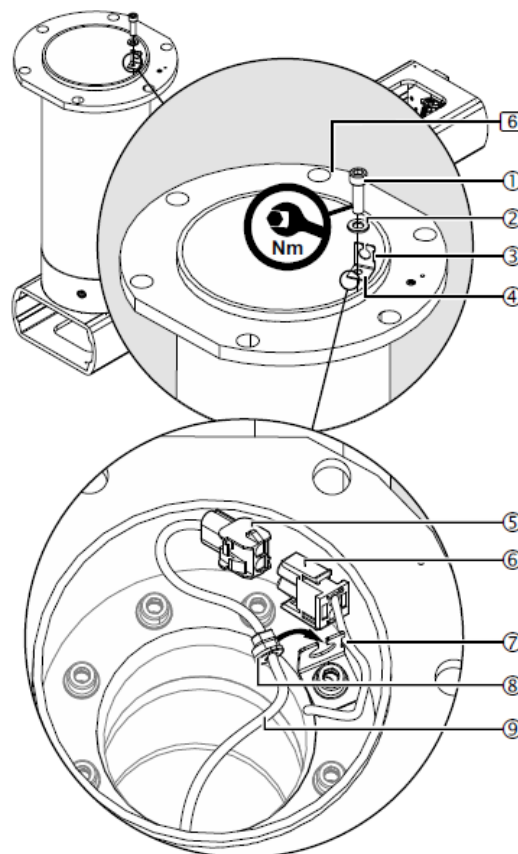
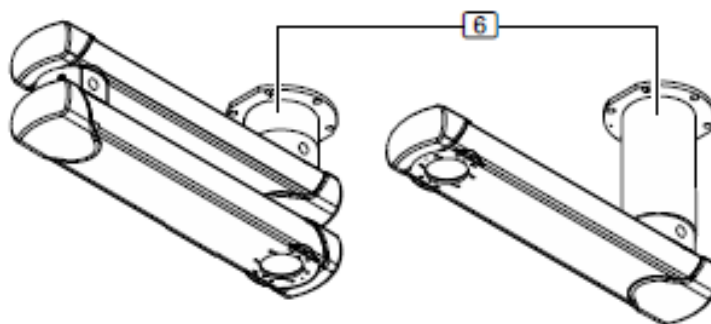
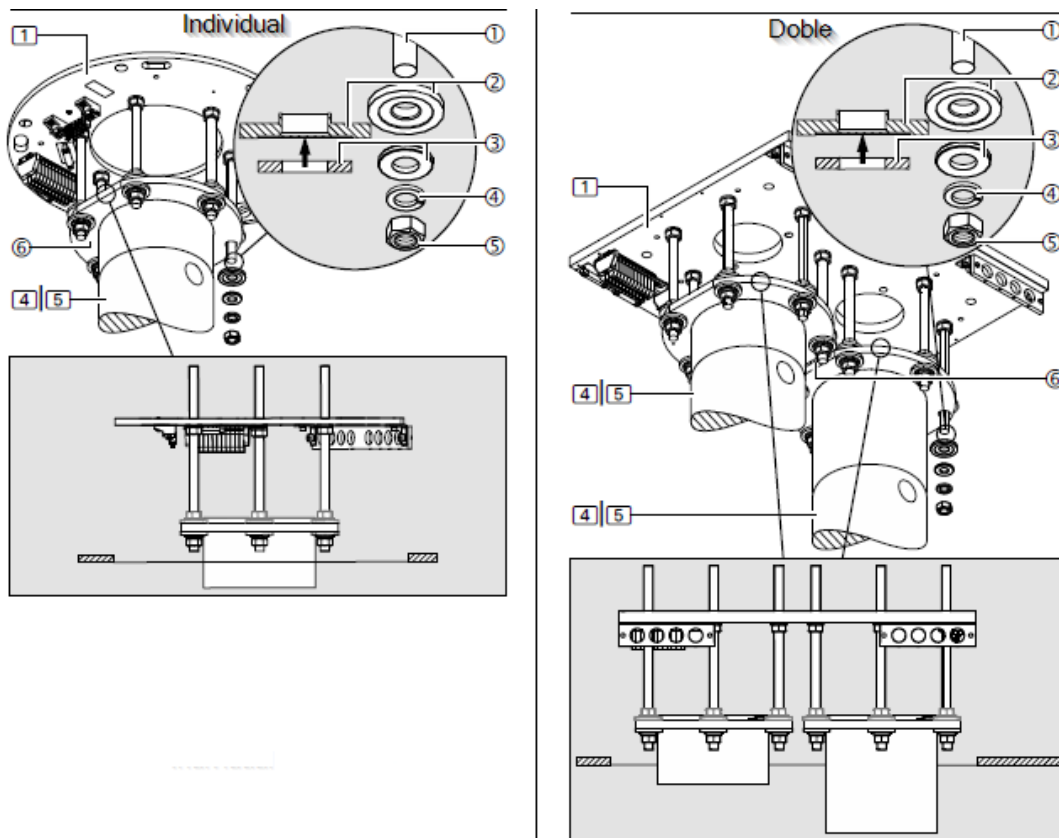

Fig. 31 Mounting the strain relief mechanism
Fig. 33 Double-arm ARES AIR and single-arm ARES AIR
Fig. 34 Assembly of the roof tube flange on the threaded bolts
Figure 31 shows the roof tube 6 with 8 hexagon socket head cap screws M10 x 25 mm ① - 8.8 - DIN EN ISO 4762 as an example.
- Insert an M10 x 25 mm socket head cap screw ① or an M10 x 30 mm socket head cap screw ① and an S10 lock washer ② into the cable gland bracket ④.
- Position the grommet bracket ④ on the roof tube 6 in such a way that the cut-out ③ of the grommet bracket ④ points towards the wall of the roof tube.
- Place the pre-assembled cable ⑦ in the cut-out ③ of the cable gland holder ④.
- Screw the cable gland bracket ④ to the motor arm (4), extension arm with motor arm (5) or XL extension arm with motor arm (5) using the socket head cap screw ① and lock washer ②.
- Make sure that the cable is not ⑦ tight.
- Establish the plug connection ⑤/⑥ with the control cable included in the packaging ⑨ and then push the strain relief mechanism ⑧ into the strain relief bracket ④.
- Check that the strain relief mechanism ⑧ is correctly fitted:
- The control cable ⑨ must be securely unloaded into the strain relief mechanism ④.
- Route the control cable ⑨ through the roof tube (6) and the motor arm (4) or the extension arm with the motor arm (5) or the XL extension arm with the motor arm (5) to the distributor plate.
In this section we already have the system arm(s) attached to the ceiling tube as shown in figure 33. The single arm ARES AIR has been fixed to an extension ceiling tube so that the two suspended systems do not collide when rotating.
Figure 34 shows a simplified representation of the roof tube flange ⑥ for mounting on the threaded bolts. Other components such as extension arm, cables, etc. are not shown.
When mounting double systems, it should be noted that the flanges of the roof pipes (6) have a chamfered surface to ensure that they can be mounted at the same height, mount them so that the chamfered surfaces are aligned with each other, as shown in figure 33 .
- Insert the roof tube flange (6) into the 6 M16 threaded bolts (1) of the interface plate (1).
- Remove the previously applied adhesive or elastic tape from the threaded bolts (1).
- For each M16 threaded bolt (1), fit 1 plastic insulating disc (2) (as shown in Figure 34) so that the flat washer with an outer diameter of 34 mm (3) (see arrow in the detailed illustration in Figure 31) is seated on the plastic insulating disc (2).
- For each M16 threaded bolt (1), fit 1 flat washer with an external diameter of 34 mm (3), 1 spring disc (4) and 1 M16 hexagon nut (5).